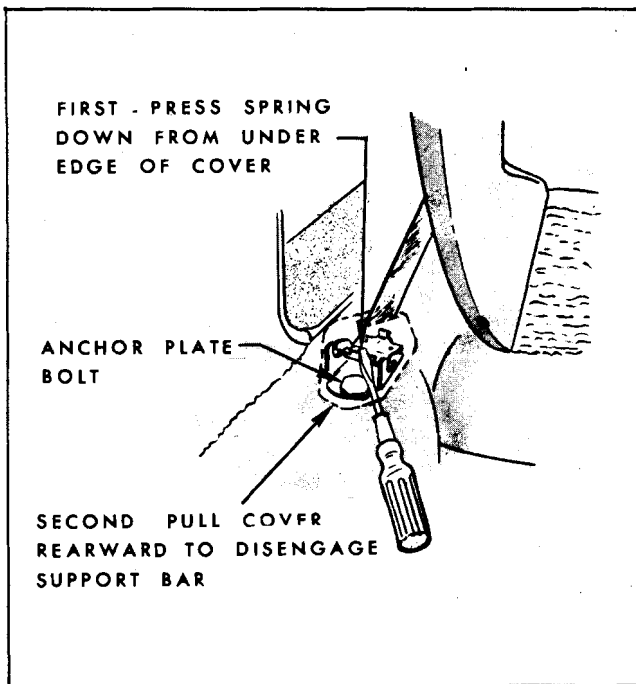

Fig. 14-94-Deluxe Front Lap Belt Self-Locking Retractor - Removal
2. Insert the blade of a 2-1/2" or 4" flat-bladed screw driver up under the retractor cover and engage blade of screw driver over top of retaining spring, as shown in Figure 14-94. Press retaining spring downward; then, pull retractor and cover assembly rearward and upward to disengage retractor and cover from anchor plate assembly.